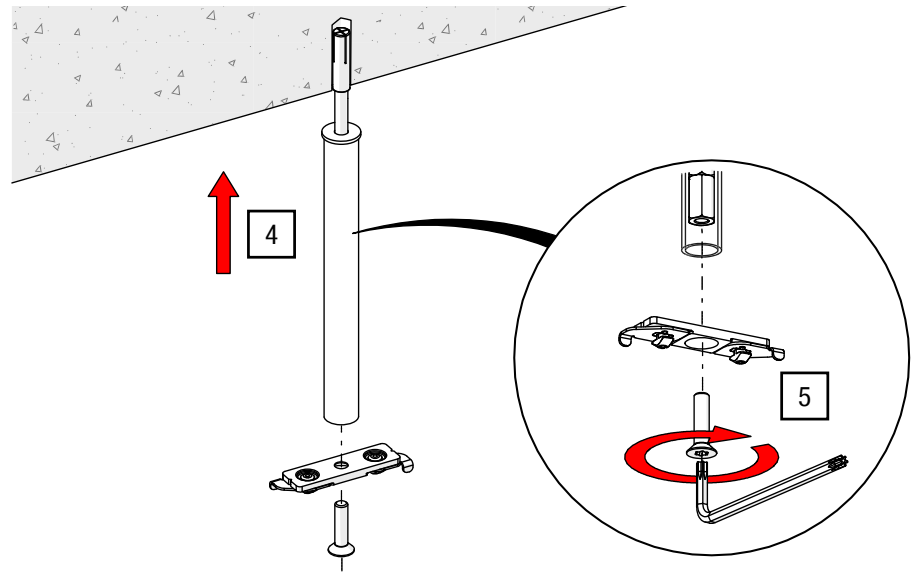

Fig. 35: Ceiling suspension – Ceiling mount bracket to suspension
4. Slide the tube onto the threaded rod scrolled into the drive-in anchor (see Fig. 35).
5. Screw the G-TRACK ceiling mount bracket to the coupling nut using a TORX®-key T30 with 14 Nm (see Fig. 35).